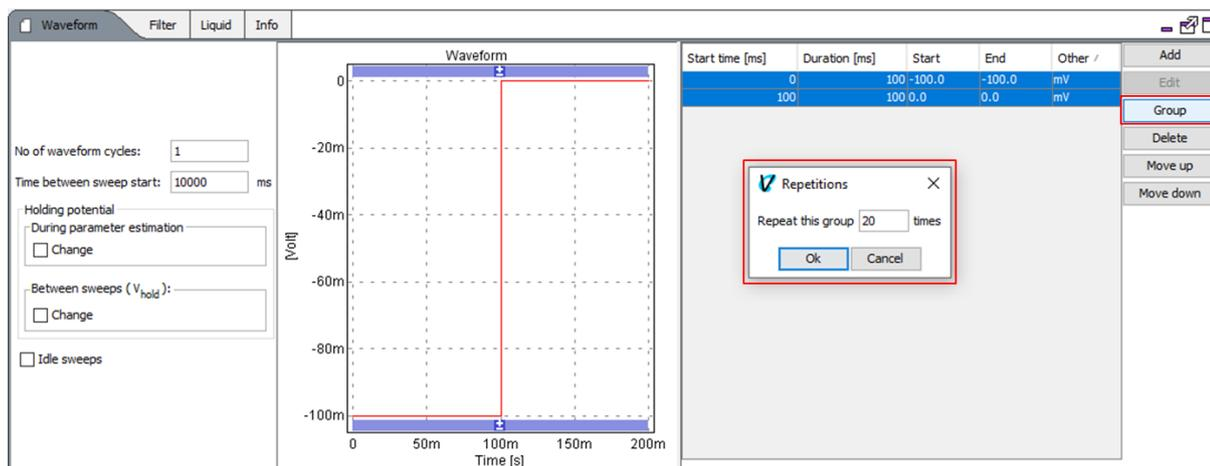

Figure 49 Making a pulse train with 'Group repetition'
- Enter number of group repetitions (Figure 49)